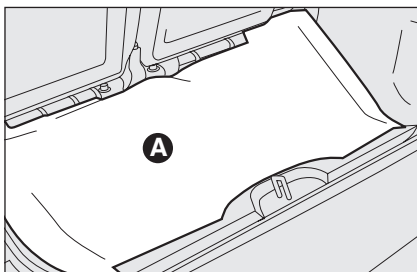

fig. 3
- lift the boot mat **A**-fig. 3;
- stow the small spare wheel **D**-fig. 3 in the space provided in the boot;